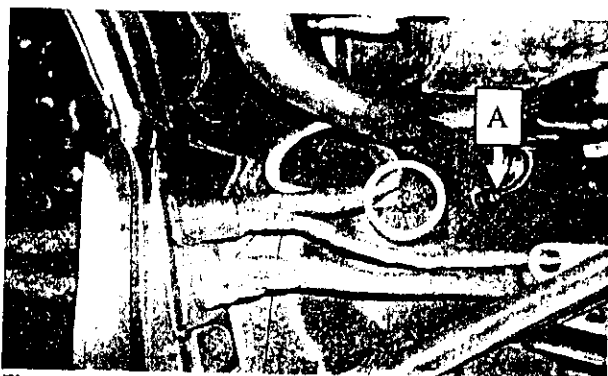

Figure 3: Threaded bolt of ground wiring harness
5. Detach the SBC hydraulic unit ground line at the threaded bolt (Figure 3).